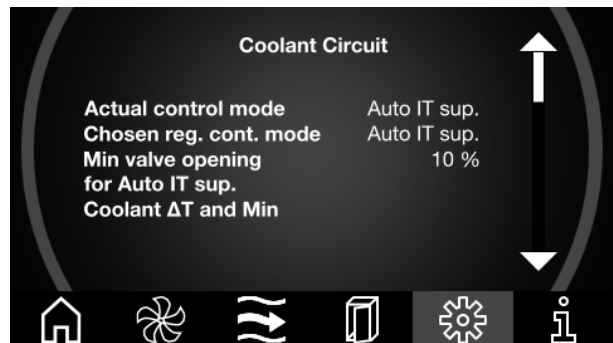

Fig. 117: "Coolant Circuit" screen pages
- Scroll with the arrow keys from the "Coolant Circuit" screen page (fig. 117) to the third screen page. The settings for the current control mode "Coolant ΔT" are displayed here as well as the target temperature of the cooling medium return, and the minimum and maximum server inlet temperatures.